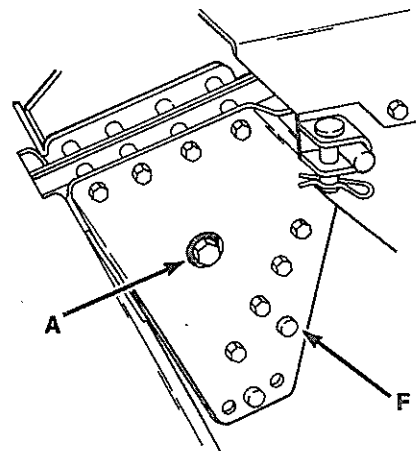

Figure 6-14 (repeated)
- d. Re-install tiller support brackets (F, Figure 6-14) in case.